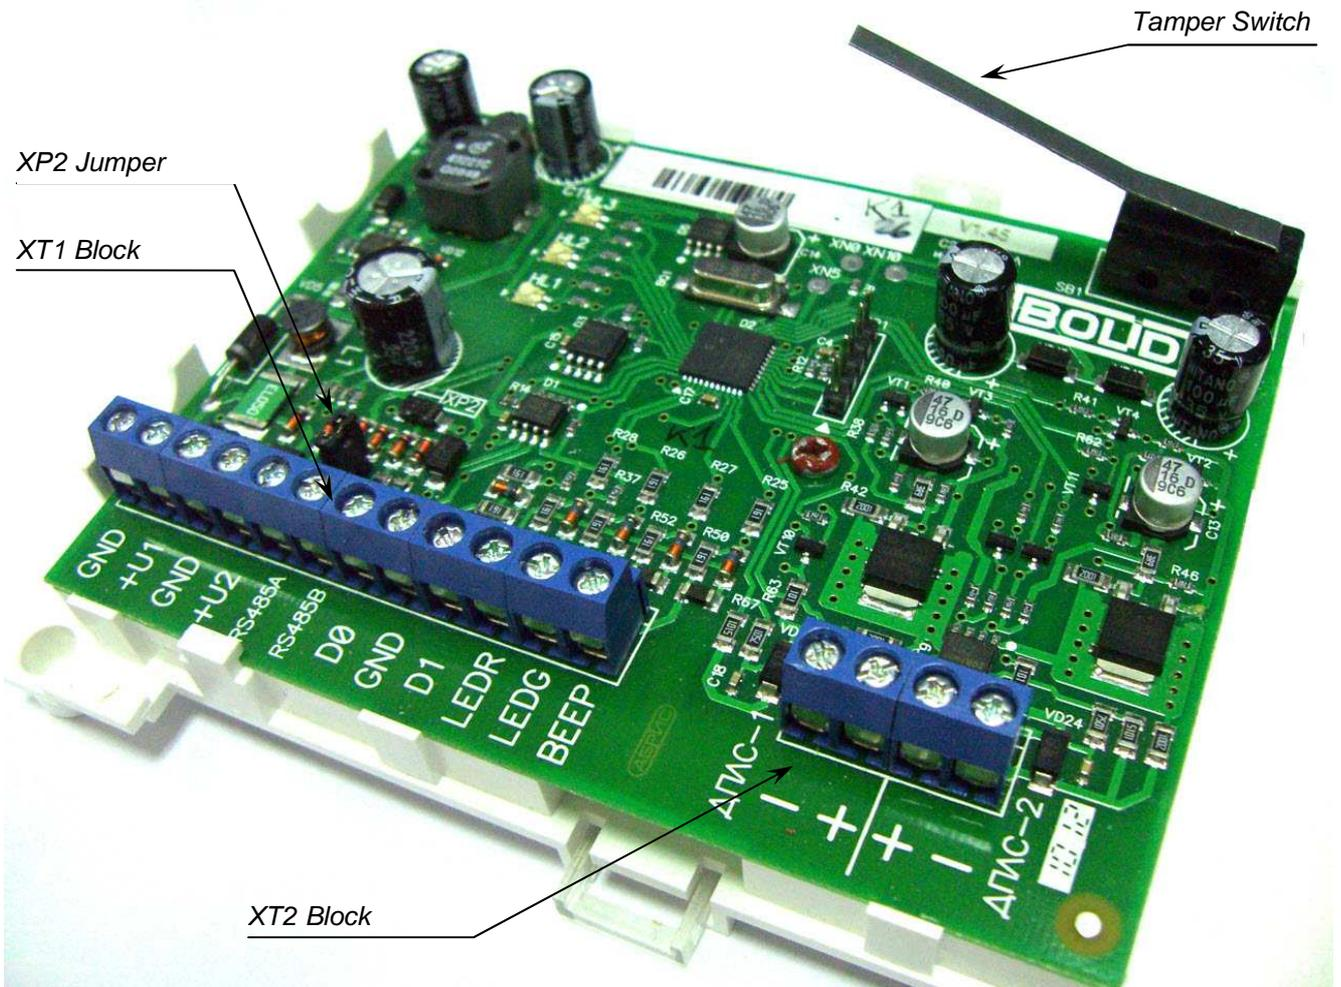
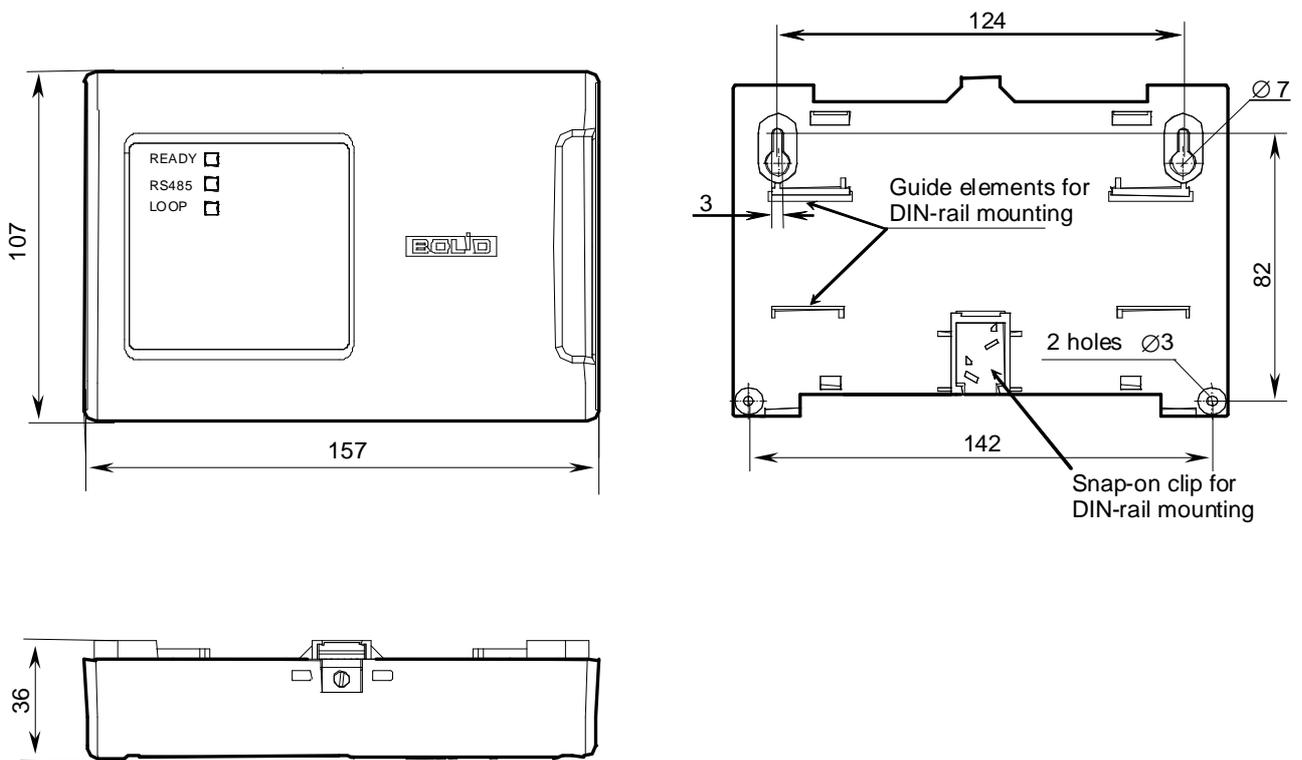
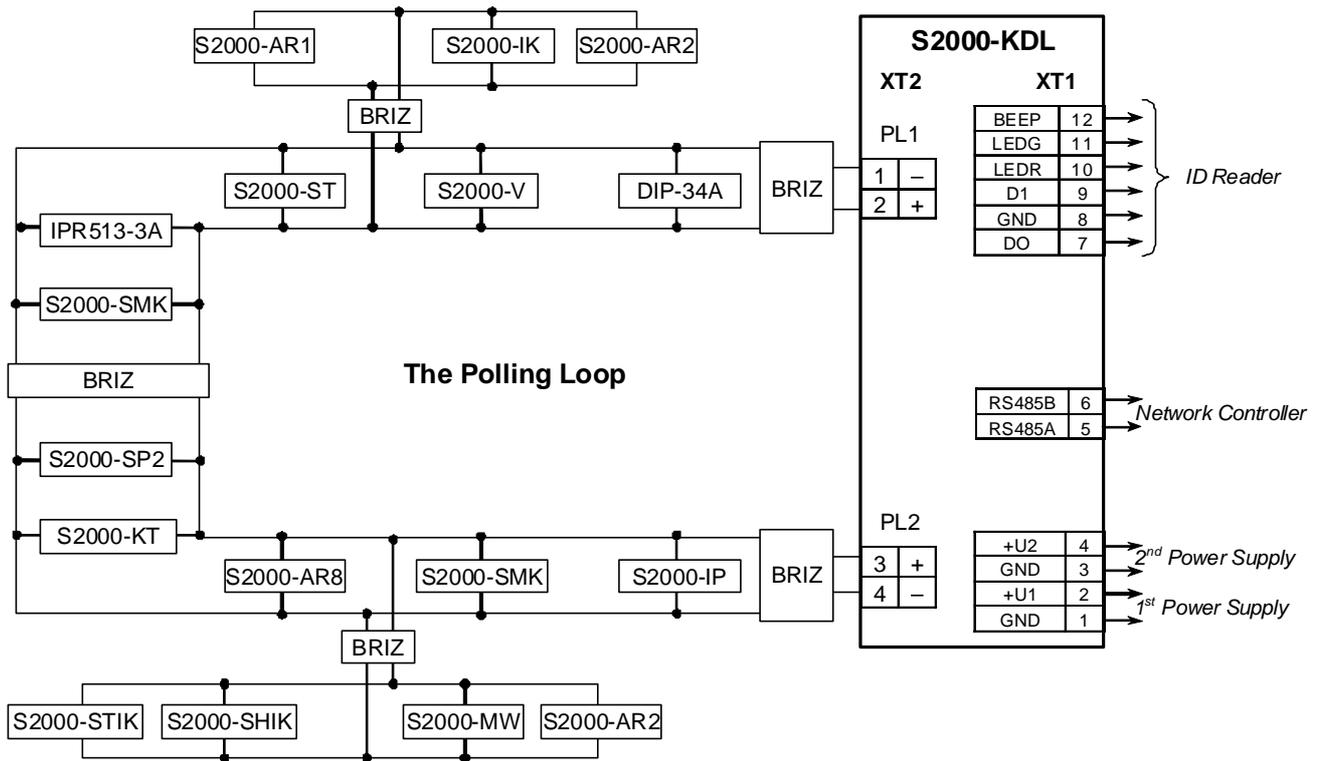

Figure 2. S2000-KDL Base and PCB
Figure 3. Overall and Mounting Dimensions of the S2000-KDL
Figure 4. S2000-KDL Wiring Diagram
The S2000-KDL is composed from a base with attached PCB (cm. Figure 2) and the top cover. Figure 3 shows overall and mounting dimensions of the S2000-KDL.
To install the S2000-KDL secure its base on a DIN rail or hang this one on a vertical surface. In the latter case, drill three holes on the wall as shown in the layout (see Figure 3), then hang the S2000-KDL base on the two wood screw provided, and finally lock its position with the third wood screw provided.
Figure 4 schematically shows the printed circuit board of the S2000-KDL with terminal block XT1 and XT2 to connect external circuits, which will be described in further sections of this document.
Connect the polling loop to the relevant contacts of the XT2 terminal block (see Figure 4) according to the proper polarity: connect the positive contacts of the polling loops to the "+" contacts of the XT2 terminal block while the negative contacts to the "-" contacts.
1. Couple the RS485A and RS485B terminals of the controller (see Figure 2 and Figure 4) with A and B wires of the RS-485 bus respectively.
3. If the S2000-KDL **is neither the first nor the last device** within the RS-485 bus, remove XP2 jumper located close to RS485A and RS485B contacts (see Figure 2) which, if put on, includes an EOL resistor into the RS-485 interface bus
One or two power supplies of 12 V or 24 V can be connected to the S2000-KDL. We recommend you to use Bolid manufactured power supplies of RIP series. Connect power supplies to the pairs of contacts GND, +U1 and GND, +U2 of the XT1 terminal block (see Figure 2).
An external ID reader with Touch Memory or Wiegand output interface can be connected to the relevant contacts of the S2000-kDL (see Figure 4). These contacts are described by Table 12.
If the reader is equipped with a single LED then, despite of its color, connect the LED control circuit to the LEDG terminal of the XT1 terminal block (see Figure 2)